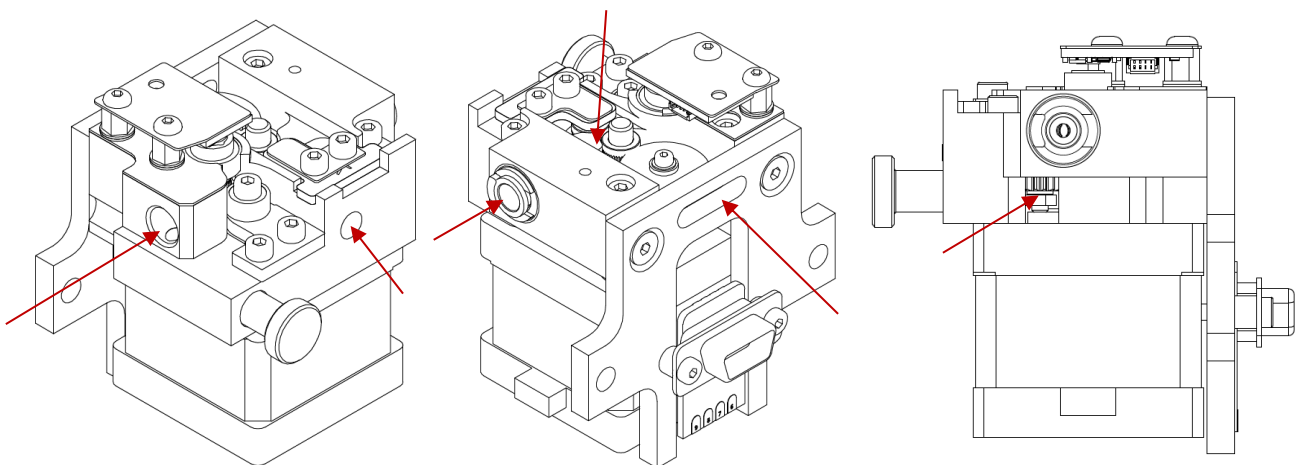

Fig. 85 Places in the extruder to be cleaned with compressed air
13. Clean the extruder from residual material with compressed air. The compressed air should be dry to prevent corrosion of extruder components. Direct compressed air mainly to the places indicated in the Fig. 85. When cleaning, be careful not to damage the D-sub socket and the encoder plate. After cleaning, check that the encoder plug located on the extruder has not come loose and is properly plugged in.